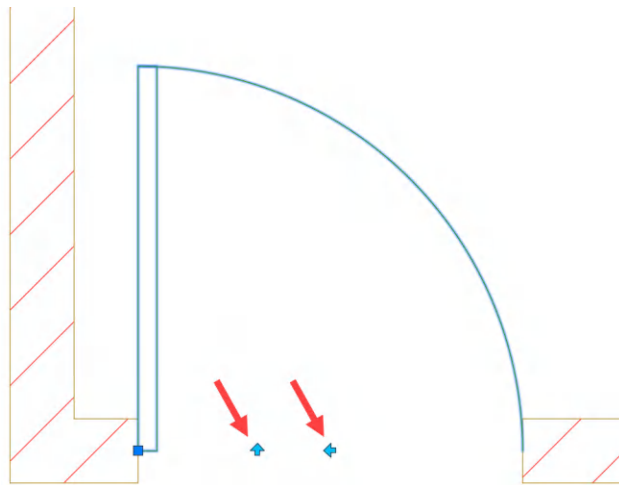

Figure 11.33: The positioned dynamic block with the flip grips displayed
6. Now that the block is positioned, you can test the **Flip** actions in the dynamic door block. Click on the block to select it, and you will see the *flip grips* displayed, as shown in Figure 11.33.